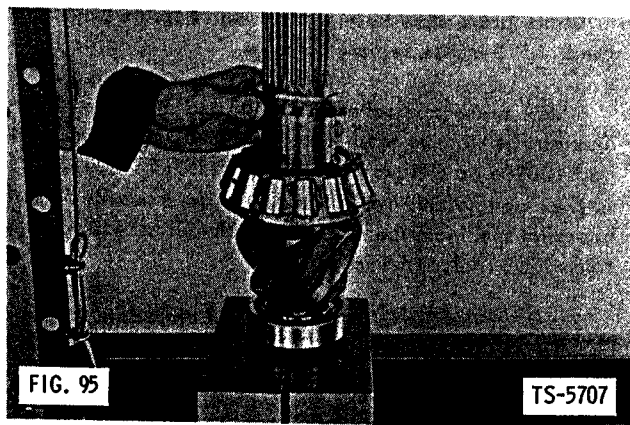

FIG. 95
5. A pinion bearing spacer and shim kit is provided for service repair of differential and carrier assemblies. This kit, consisting of a spacer and quantity of shims, is used to obtain proper pinion bearing preload as described below. Position bearing spacer and one .010-inch shim on pinion shaft (Fig. 95).